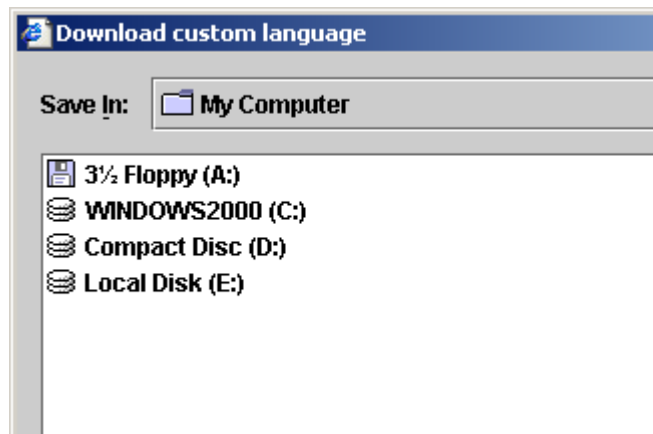

FIG. 36: Download Custom Language
**Download custom Language** - saves the current system language to the PC. This file is opened and a custom language added to the B column of the Excel file. See FIG. 36.